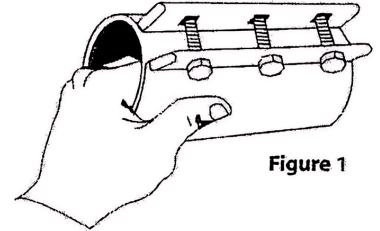

Figure 1
- To avoid slippage of the gasket, sleeve, and gasket protector (when used), always hold coupling as shown in Figure 1.